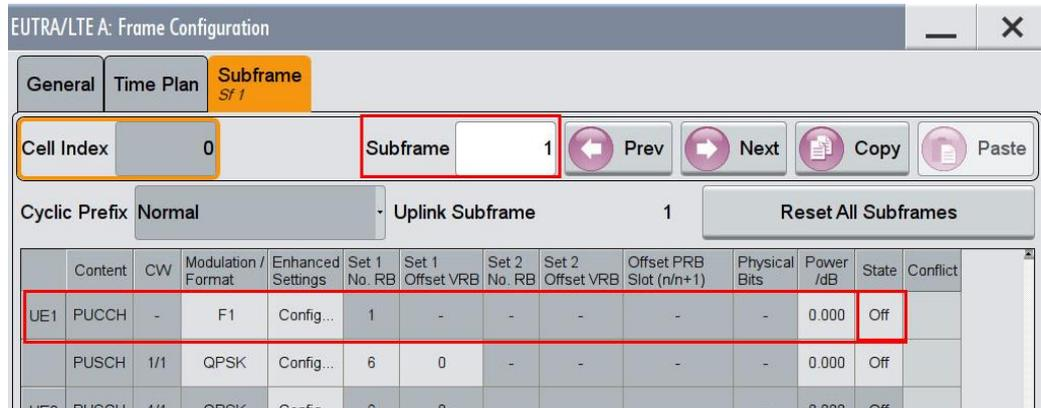

Fig. 3-128: In the second configurable subframe (subframe 1) the PUCCH is not transmitted (state on)
- Make sure that the PUCCH in the second configurable subframe is not transmitted.(State **Off**) (Fig. 3-128)